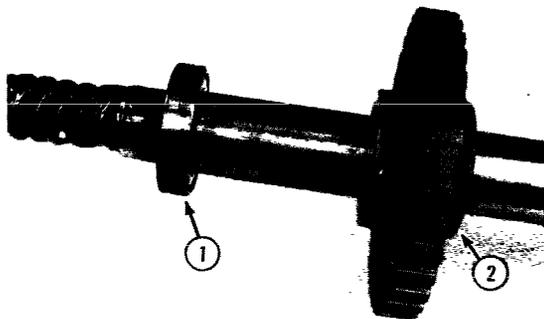

Fig. 2-23
- (15) Use a bearing puller and remove the bearing from the end of the shaft (1, Fig. 2-23).
- (1) Install the knife shaft pulley with round groove toward the knife end (2, Fig. 2-23).
- (2) Use a long driving sleeve to drive the bearing (1, Fig. 2-23) on the knife shaft. The sleeve should touch only the inner race of the bearing.